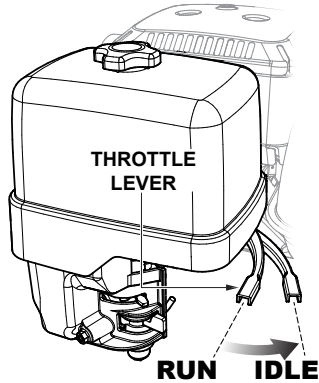

Figure 13. Throttle Lever (Idle)
1. Move the throttle lever to the **IDLE** position and run the engine for three minutes at low speed (Figure 13).
**QUICKLY** move the throttle lever to the **IDLE** position (Figure 13) and place the engine **ON/OFF** switch in the **OFF** position.